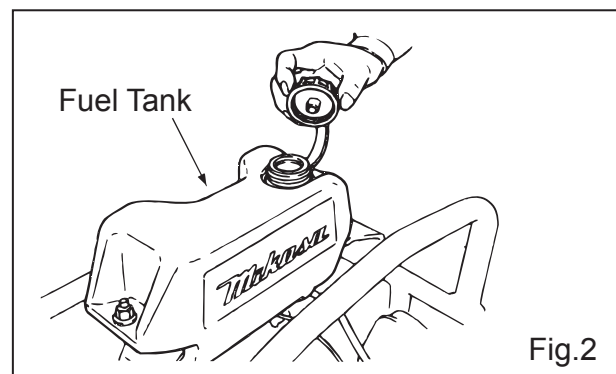

Fig.2
- 7-3. Fill the fuel tank with regular gasoline ( unleaded ). Simultaneously, check engine oil and make it a habit to replenish on the earlier side. Low lubrication oil level may result in engine seizure due to consumption during operation. (Fig.2 and 3-1,3-2) Nevertheless, oil level should be checked prior to start up without fail. For lubrication, use automobile engine oil of 10W-30 SE,SF or better grade. See Engine Operating Manual for further detail.